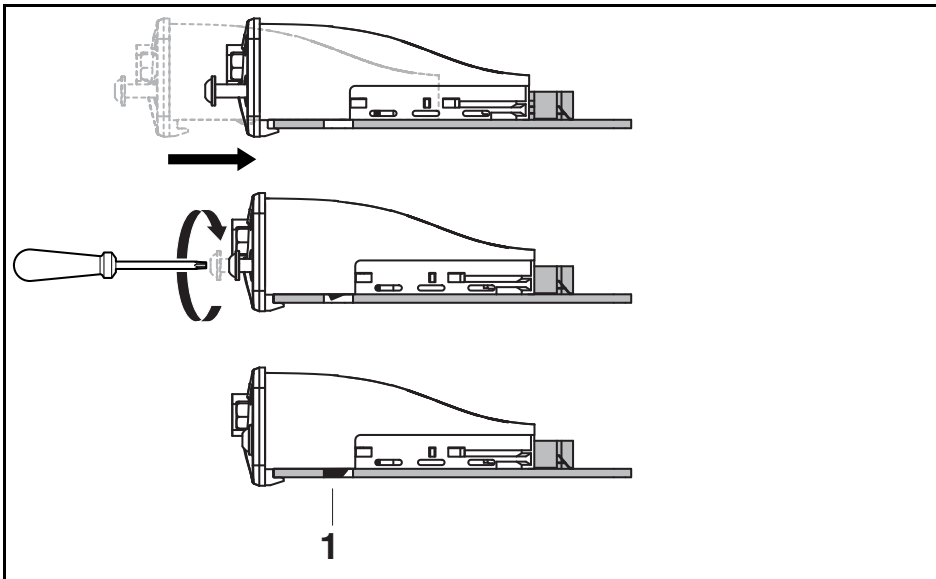

Fig. 3: Arresting function
3. Tighten the torx screws at the front until the front panel is flush. Tightening the screws will arrest the circuit board. The interface module is not fully engaged until it has been screwed down (see fig. 3).